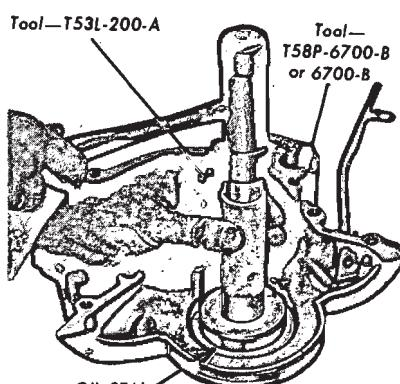

FIG. 39—Installing Crankshaft Front Oil Seal
1. Coat a new seal with grease, then install the seal in the cover. Drive the seal in until it is fully seated in the recess (Fig. 39). Check the seal after installation to be sure the spring is properly positioned in the seal.